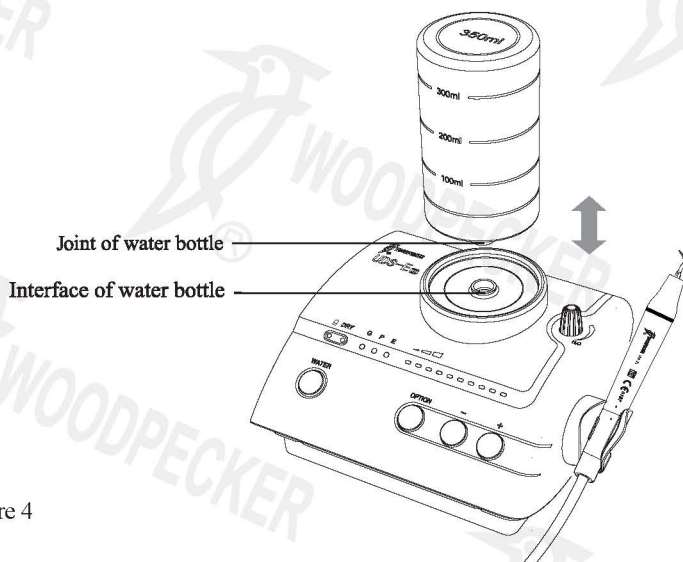

Figure 4
Install the bottle reversely to the connector with adequate purified water (See Figure 4).
- d) Place the bottle with water upside down, insert the joint into the interface vertically (See Figure 4).